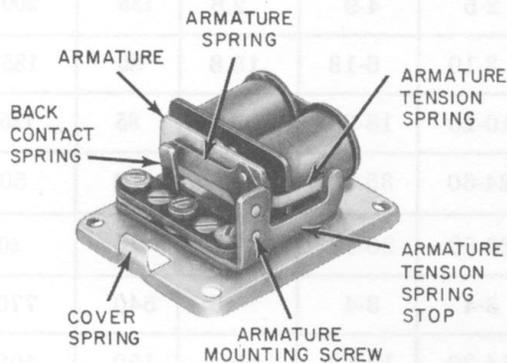
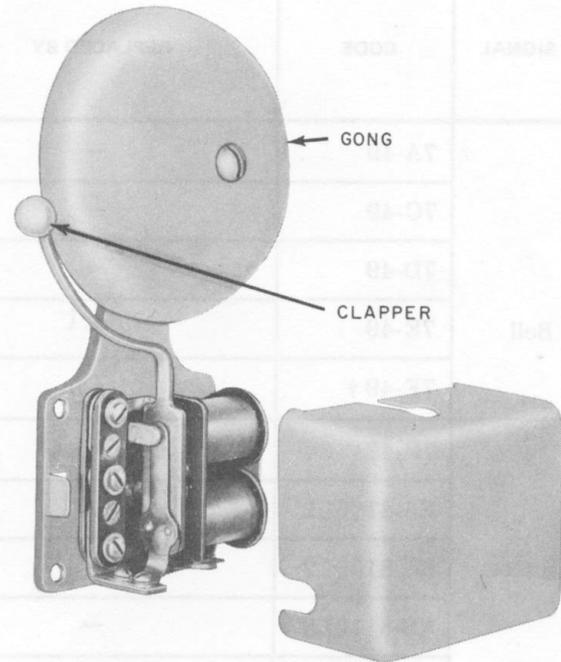

Fig. 1—7F Buzzer
Fig. 2—7-Type Bell
- 2.06 The 7F buzzer (A&M Only) (Fig. 1) and the 7-type bell (Fig. 2) have the same design features except the bell is equipped with a clapper and 3-inch gong.
2.09 The gong of the 7-type bell (Fig. 2) has its mounting hole drilled off-center. The eccentricity of the mounted gong provides for adjustment of the bell's volume by rotating the gong to increase or decrease the travel distance between the clapper and the gong.
(e) The 7F buzzers (Fig. 1) may be mounted in any position. A preferable position for mounting on vertical surfaces is with armature hanging vertically from hinged end to reduce amount of dust settling on contacts.